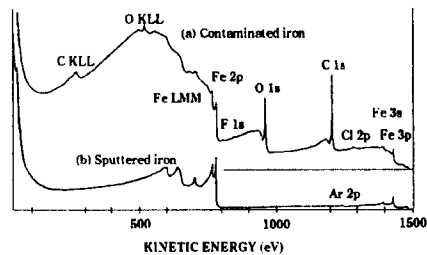

Fig.1 XPS Spectra of high purity Fe (a) contaminated (b) sputtered
2. An example of measurements Fig.1 is an example of XPS spectrum acquired with PHI-5600 which has an almost flat transmission function. The sample is a high purity iron. A big difference is observed at the background (so called peak-background). The sputtered sample shows smaller background. When comparing backgrounds below C 1s and O 1s of the contaminated sample, C 1s has smaller one than O 1s.